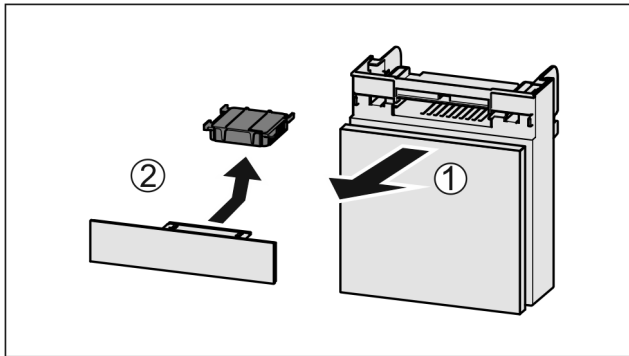

Fig. 114
- ▶ Pull out the compartment Fig. 114 (1).
- ▶ Remove the carbon filter Fig. 114 (2).